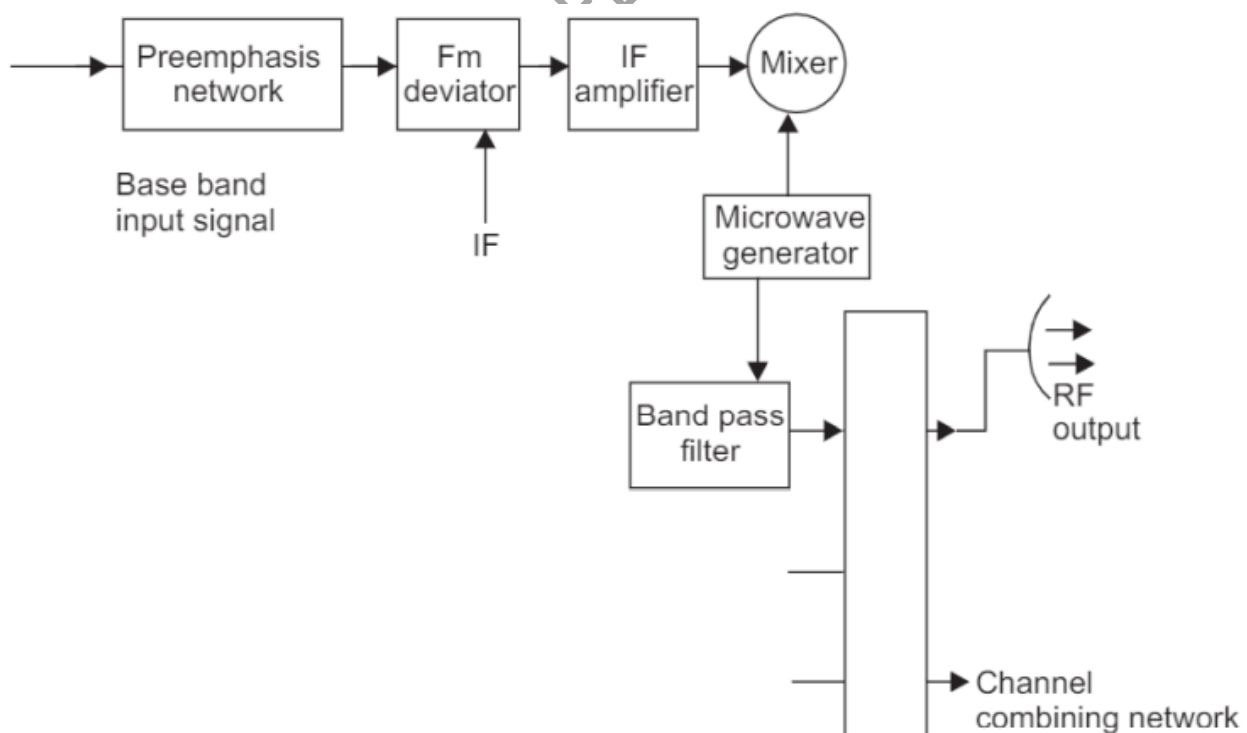

Fig 5.18 Block diagram of FM transmitter
- When the signal coming out of the preemphasis circuit is applied to the FM modulator, the low frequencies get frequency modulated by the Intermediate Frequency (IF) carrier and the high frequencies get phase modulated.
- Figure 5.18 shows the simplified transmitter block diagram of a microwave FM transmitter.